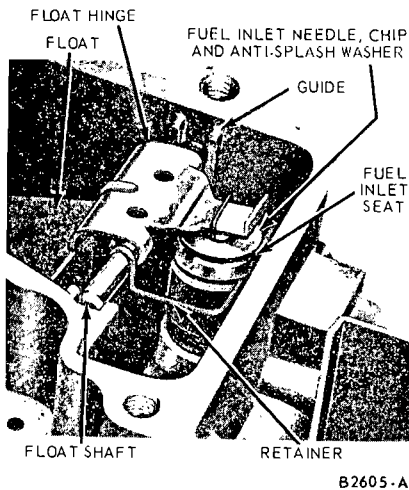

FIG. 15—Float Assembly
1. With the use of a screwdriver, pry the float shaft retainer from the fuel inlet seat in each fuel bowl (Figs. 15 and 16). Remove the floats, float shaft retainers and fuel inlet needle assemblies. Remove the retainer and float shaft from each float lever.